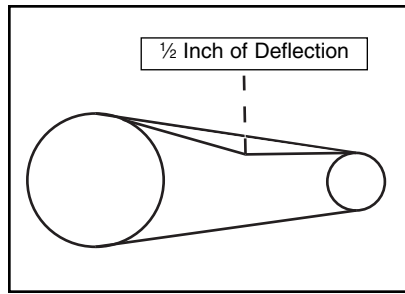

Figure 13. V-belt deflection.
6. A properly tensioned V-belt will have about a $\frac{1}{2}$ inch deflection as shown in **Figure 13**. Replace the belt guard.